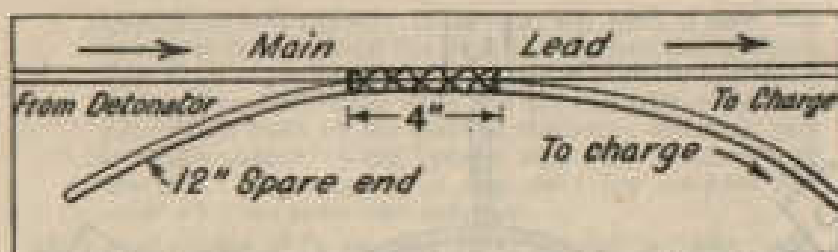
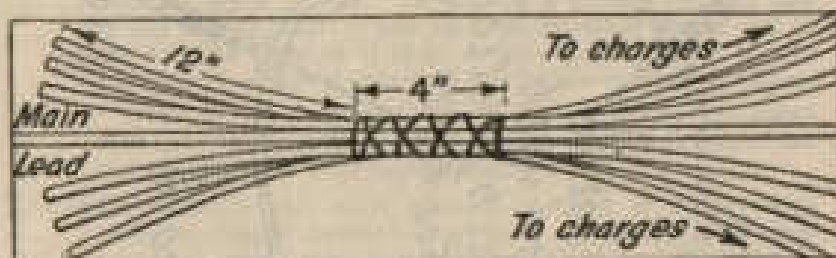

Fig 9. Cordtex lap joint—Not to be used on ring main
Fig 10. Cordtex junction box
- (c) *Joints*.—The detonating wave will pass from one cordtex lead to another if there is sufficient contact. Such contact can be achieved by tying the branch lead round the main lead with a clove hitch (see Fig 7). This knot must be pulled tight. Alternatively, joints can be made by lashing the two leads concerned together so that they are in good contact for at least 4 ins (see Fig 9). Multiple junction boxes can also be made up in this way (see Fig 10). **MAKE ALL SPARE ENDS IN JOINTS OF ANY KIND AT**